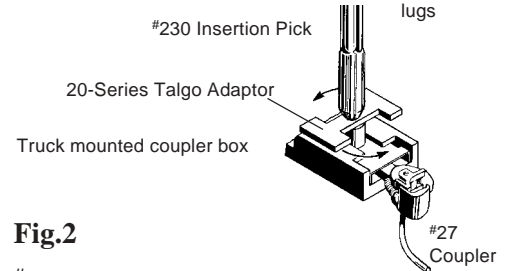

Fig.2
5. Assemble the #27 Coupler into the truck mounted coupler box according to the 20-Series instructions. See Fig.2.